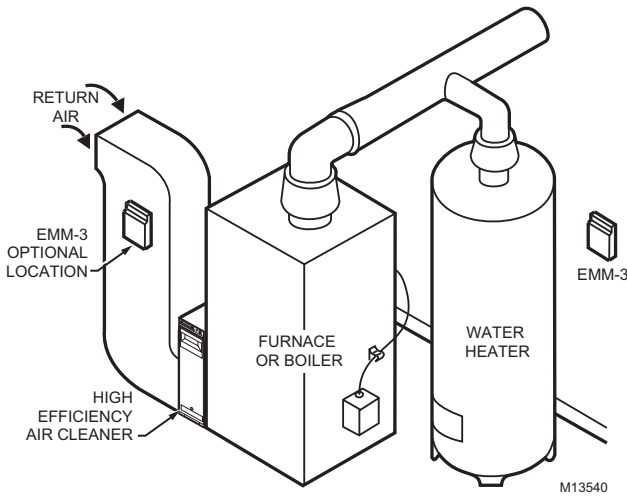

Fig. 2. EMM-3 mounting location.
1. Mount the thermostats in each zone of the living space using the installation instructions provided with each thermostat. See Fig. 2.